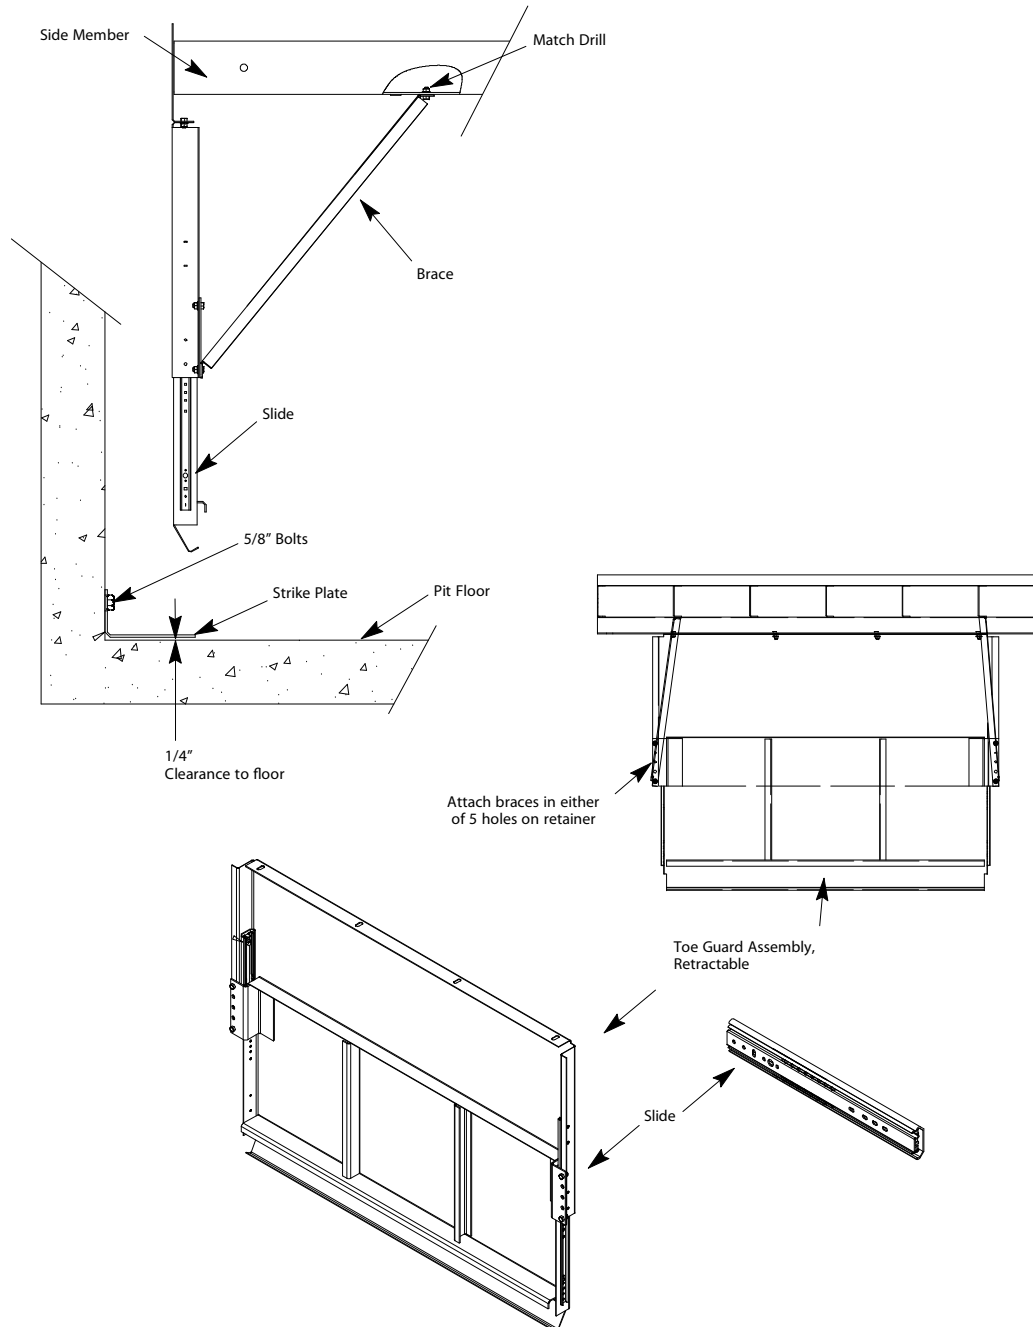

Figure 10 - Retractable Toe Guard Installation
1. Mount the toe guard, and then use 3/8" x 3/4" bolts and nuts to slide the assembly to the platform. See Figure 10 on page 16 for all steps in this procedure.